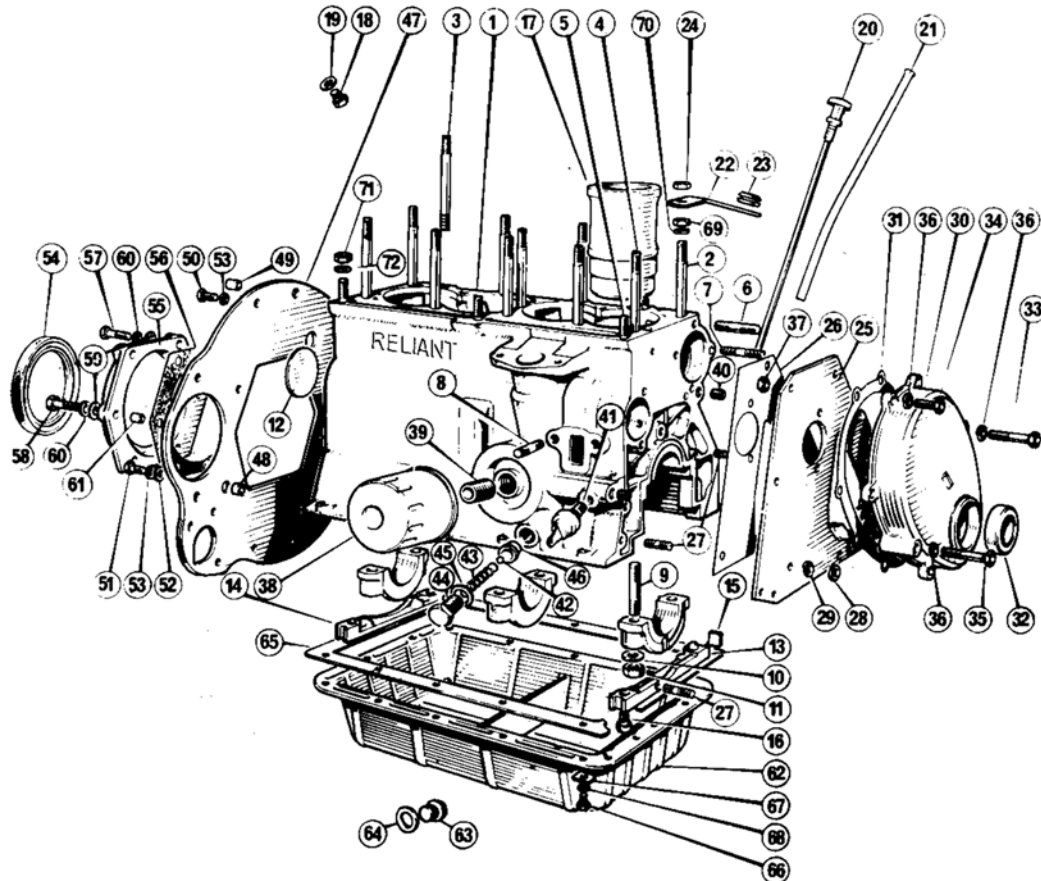

Figure 2 Cylinder block, 700 cc, later vehicles 750 cc
1. Clean the mating face between the flywheel and the end of the crankshaft. Check that the locating dowel is undamaged and ensure that the spigot bush (needle bearing on 750cc) is in place. Check the bush for wear. If wear is evident then knock the old one out and fit a new one using special tool no. RT 7485 (Figure 2). Needle roller bearings have been used as an alternative to the phosphor bronze bush and care must be taken when replacing these. It is vital to note that the hardened square end face of the bearing must face the tool used to press in the bearing. Use of the rolled end of the bearing will distort the shell and damage the rollers. In many cases the part number or makers name will be stamped in to the hardened end to aid identification. If this does not apply, great care must be observed to identify the correct end.